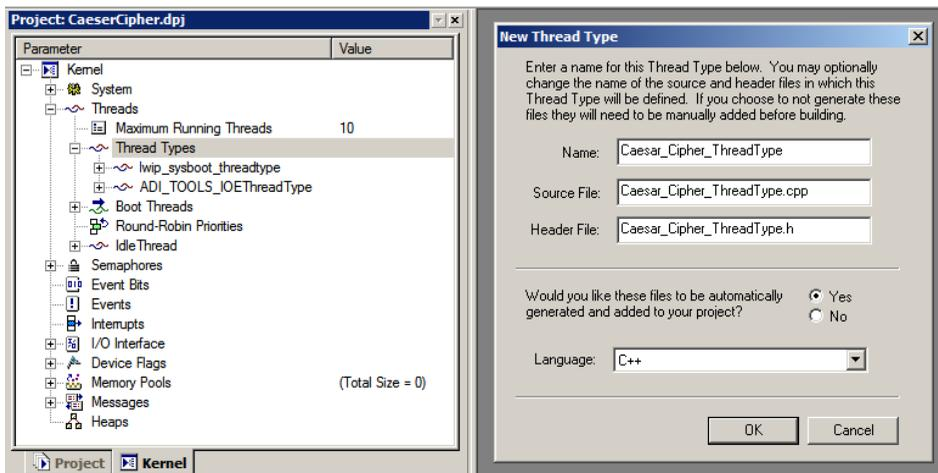

Figure 2-3. New Kernel Thread Type
1. From the **Kernel** tab of VisualDSP++ **Project** window, navigate to **Kernel**→**Threads**→**Thread Types**. Right-click and select **New thread type**. Type `Caesar_Cipher_ThreadType` in the **Name** field, leave **Source File** and **Header File** as is, automatic source code generation as **Yes**, and leave the **Language** as **C++** (Figure 2-3).